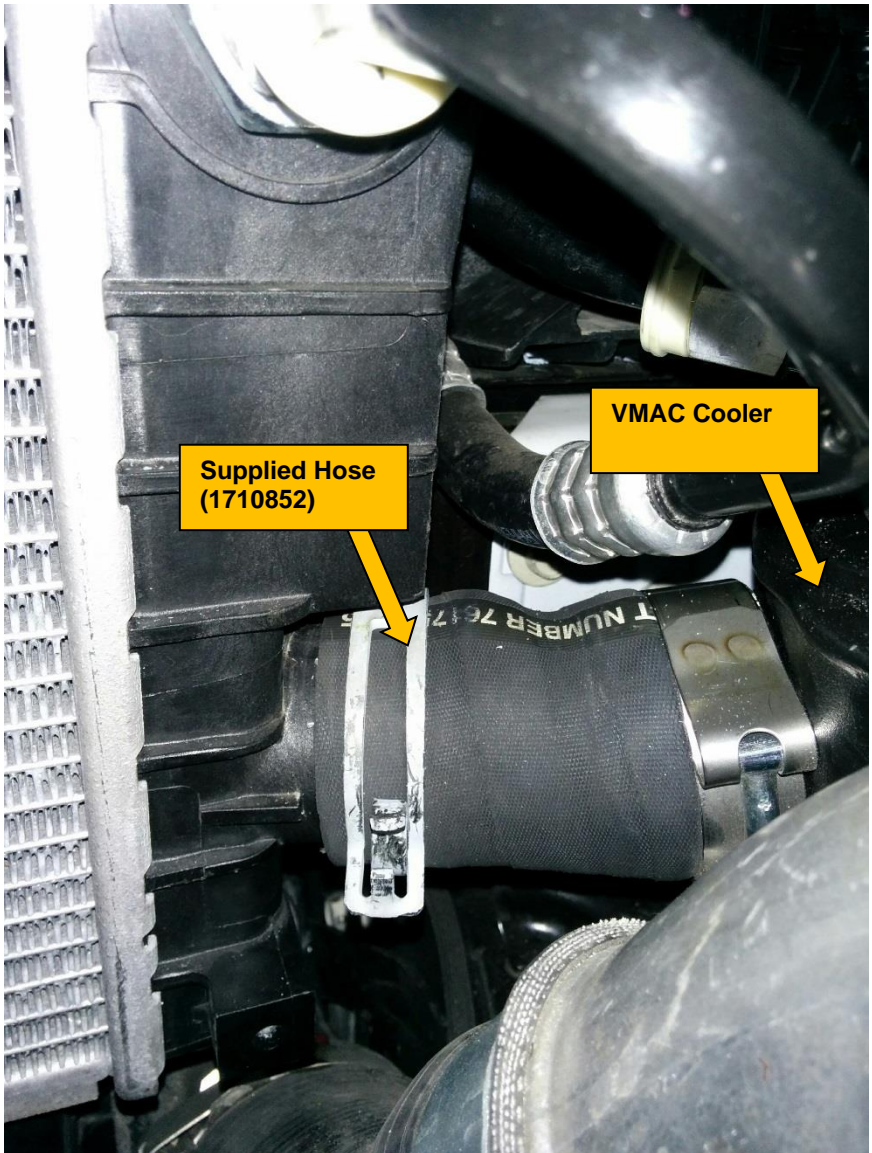

Figure 27 – Installing the cooler
- Install the supplied (1710852) 3-1/2 in hose on short VMAC cooler spigot and secure with supplied t-bolt clamp (2200223). (Figure 27)